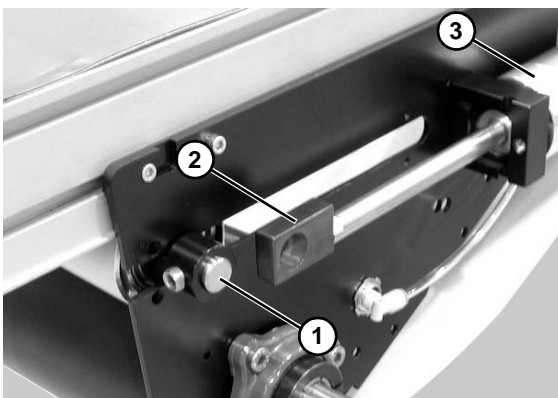

Figure 37
- Push shaft (Figure 37, item 1) through block (Figure 37, item 2), and slide block towards air cylinder (Figure 37, item 3).